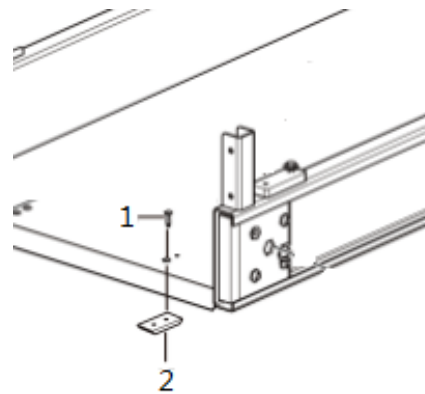

Figure 3.7 Extended platform
2. As shown in Fig. 3.7, place part 2 on the lower plane of the extended platform base plate, keep part 1 and part 2 concentric with the extended platform base plate hole, and thread part 1 from top to bottom, and fix part 2 on the extended platform base plate to ensure firmness and reliability.